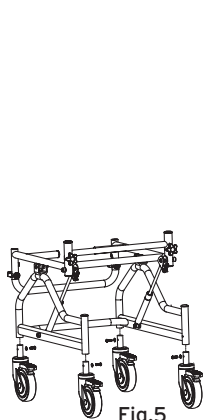

Fig.5
- Instal the 4 wheels on the frame using screws and washers provided. The wheels without brakes must be installed on the front side of the frame (fig.5);